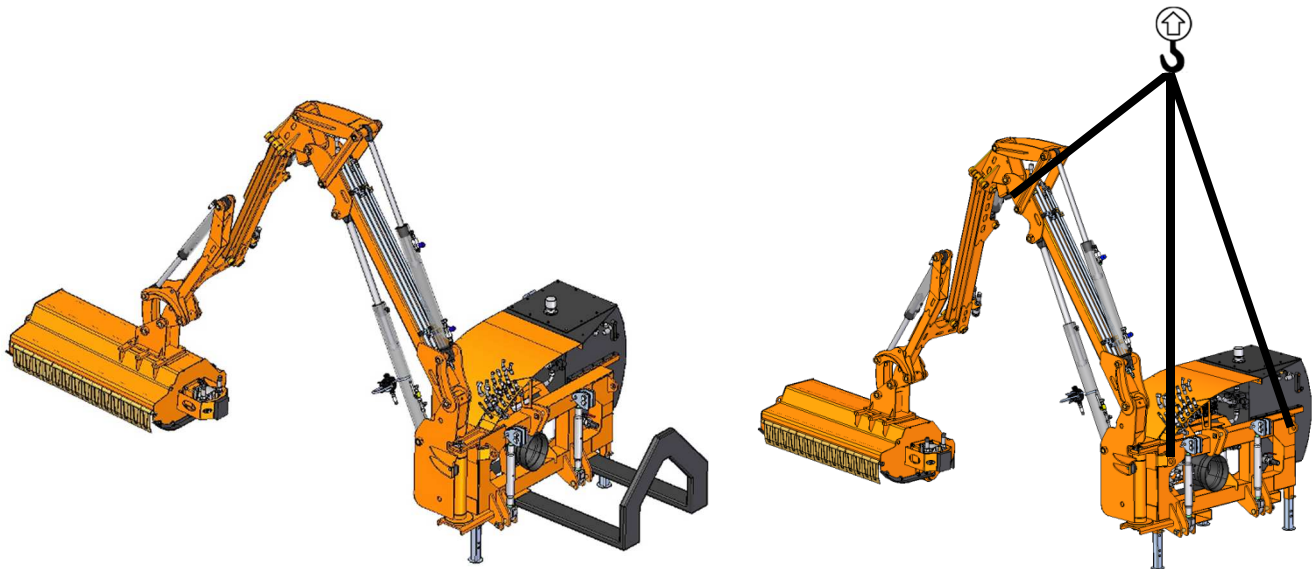

Fig. 23. Method of loading extension arms
- ❑ it is recommended to transport extension arms using a forklift truck (**Fig. 23**),
- ❑ the machine should be seized by any lifting device only in places indicated on the machine by the catch sign (**Fig. 23**),